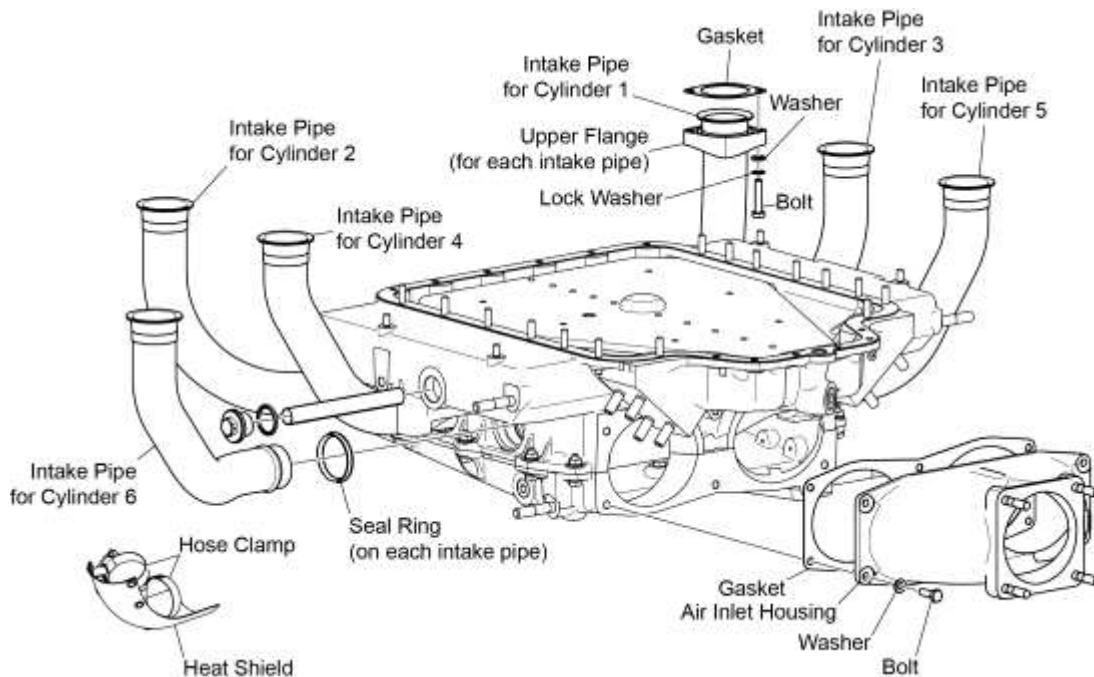

Figure 2
NOTICE: Each engine cylinder has a corresponding intake pipe of a different part number. Be sure to replace the intake pipe with the correct replacement intake pipe that corresponds to the engine cylinder number (Figure 2). Refer to the *TEO-540-C1A Illustrated Parts Catalog* for the part numbers of the correct replacement intake pipes.
- (1) If removing intake pipe (Figure 2) for either Cylinder Nos. 5 or 6, loosen the hose clamps and remove the heat shield and two hose clamps.
- (2) Remove the two bolts, lock washers, and washers from the intake pipe flange at the engine cylinder (Figure 2). Discard the lock washers.
- (3) Remove the gasket from the intake pipe, discard the gasket.
- (4) If the intake pipe is not to be replaced, attach a label to the intake pipe that identifies the corresponding engine cylinder number for reference on assembly.
- (5) Remove the intake pipe and seal ring at the oil sump connection. Discard the seal ring.
- (1) Install the intake pipe with a new seal ring at the oil sump (Figure 2) in the oil sump opening for the corresponding cylinder.
- (2) Attach the corresponding intake pipe to the correct engine cylinder flange with a new gasket, two bolts, two new lock washers, and two washers. Torque the two bolts to 96 to 108 in.-lb. (11 to 12 Nm).
- (3) Install a heat shield with two hose clamps. Tighten the hose clamps to hold the heat shield securely in place.